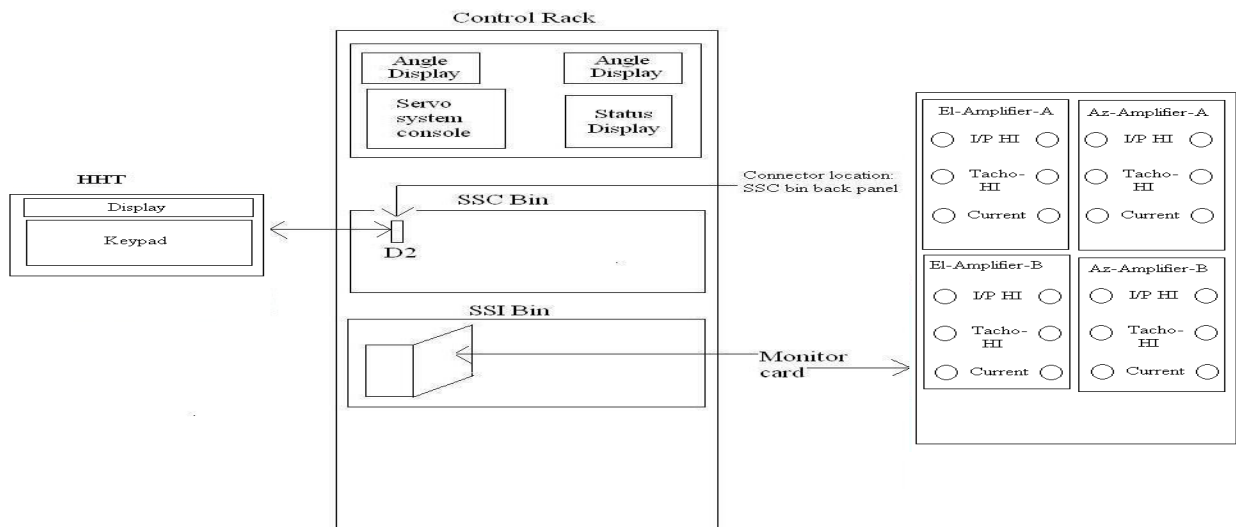

Figure32: Motor run test setup
1. Antenna setup is as shown in Figure32